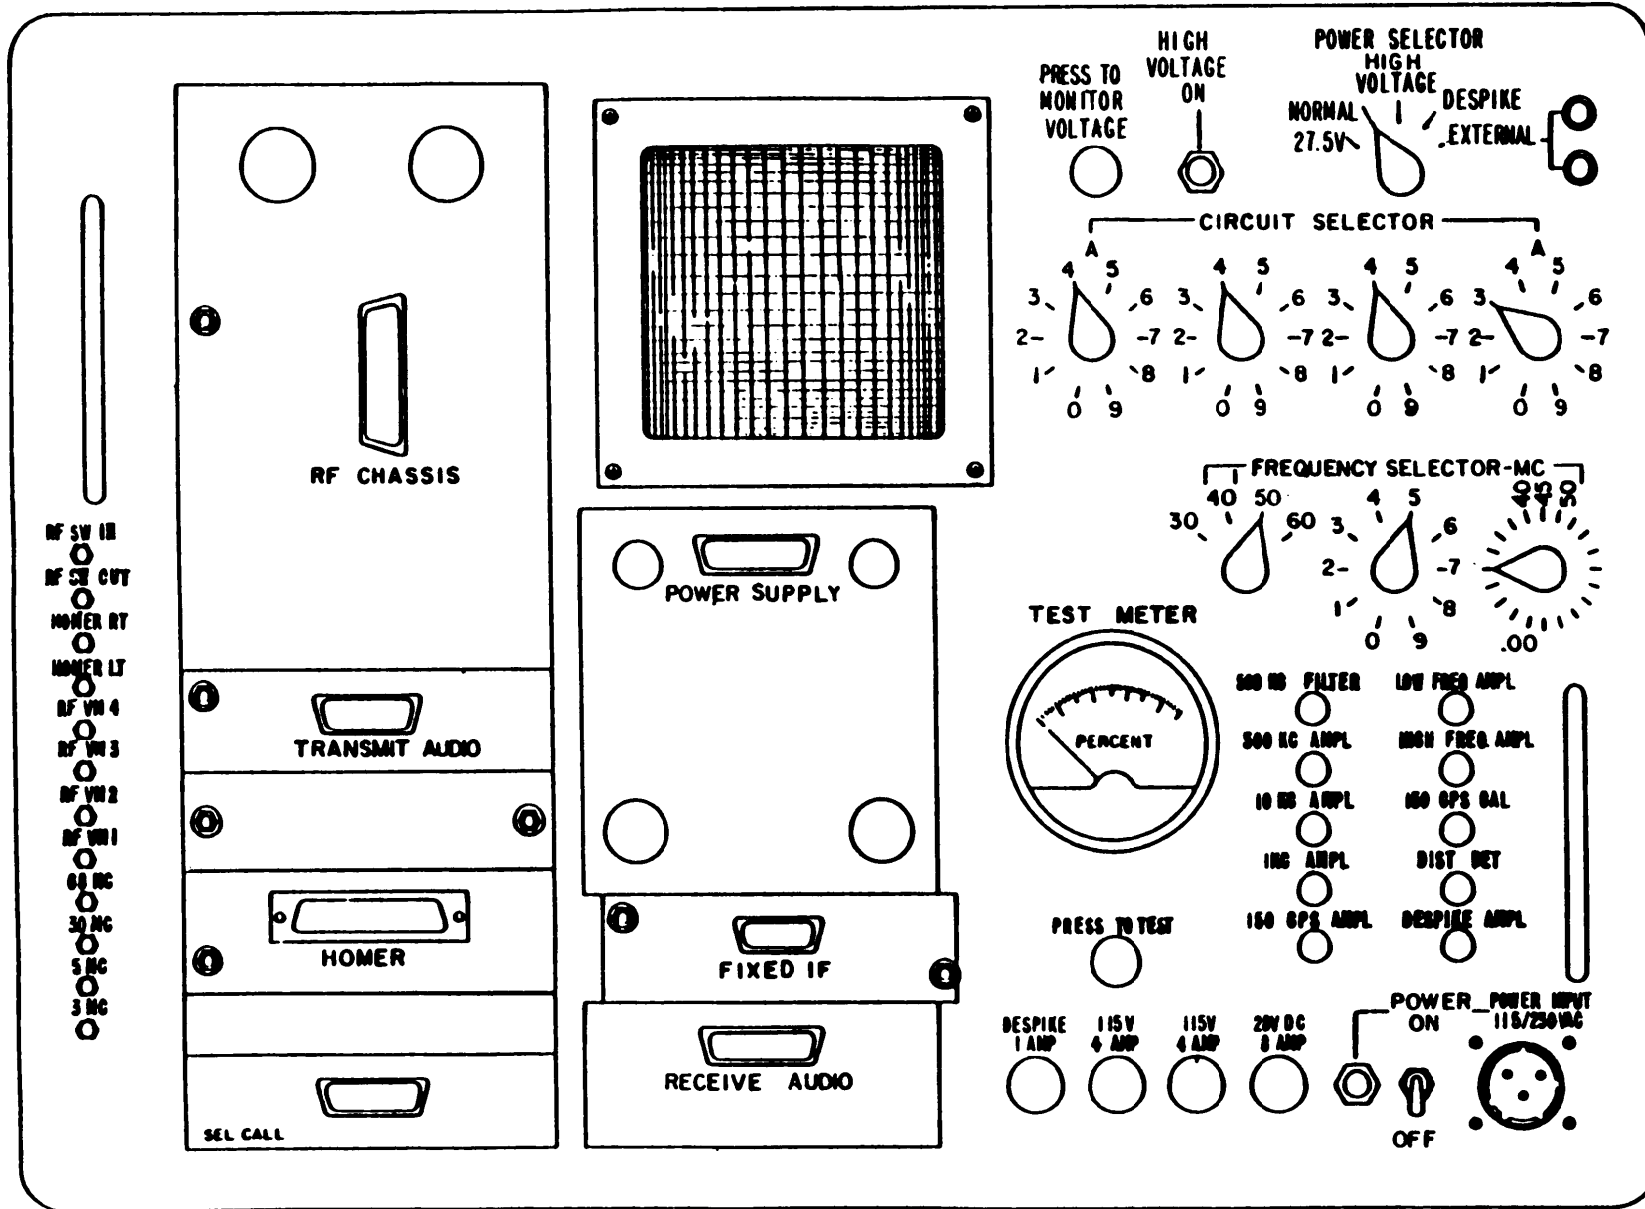

Figure 3-1. Operator's controls, indicators, connectors, and fuses.
Controls for the test set are described in table 3-1 and shown in figure 3-1.
a. Module Tester. The primary purpose of the test set is to test the individual modules of Radio Set AN/ARC-54. The front panel of the test set (fig. 3-1) contains a mating connector for each individual AN/ARC-54 module. Function switches on the test set connect power and simulated loads to the various module circuits and a metering circuit
a. Preliminary Switch and Control Setting (fig. 3-1). Set the switches and controls on the test set as follows: POWER switch to OFF, POWER SELECTOR switch to 27.5V, and DESPIKE AMPL control to full counterclockwise position.
b. preliminary Connections and Adjustments (fig. 3-1).
(1) Connect the power cable connector end to the POWER INPUT 115/230 VAC connector on the front panel.
(2) Connect the other end of the power cable to a 115-volt alternating current (ac) power source.
(fig. 3-1)